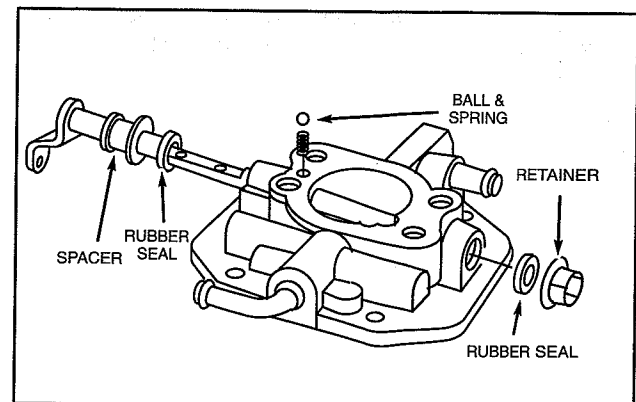

Fig. 111 – Install Choke Shaft
10. Push choke shaft into hole until ball engages groove in choke shaft, Fig. 111.